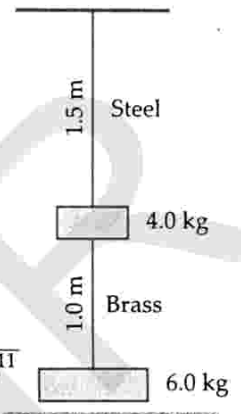

Fig. 9.34
9.5. Two wires of diameter 0.25 cm, one made of steel and other made of brass are loaded as shown in Fig. 9.34. The unloaded length of steel wire is 1.5 m and that of brass wire is 1.0 m. Young's modulus of steel is 2.0×10^{11} Pa and that of brass is 0.91×10^{11} Pa. Compute the elongations of steel and brass wires. ($1 \text{ Pa} = 1 \text{ Nm}^{-2}$).